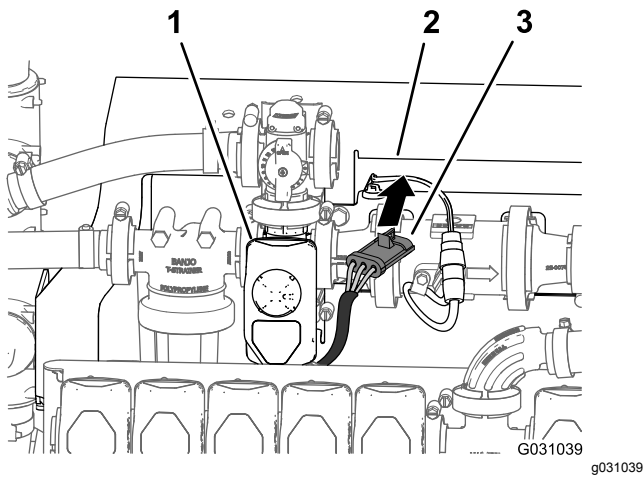

Figure 102
5. Route the 3-pin connector for the harness of the agitation valve forward of the manifold mount (Figure 102).